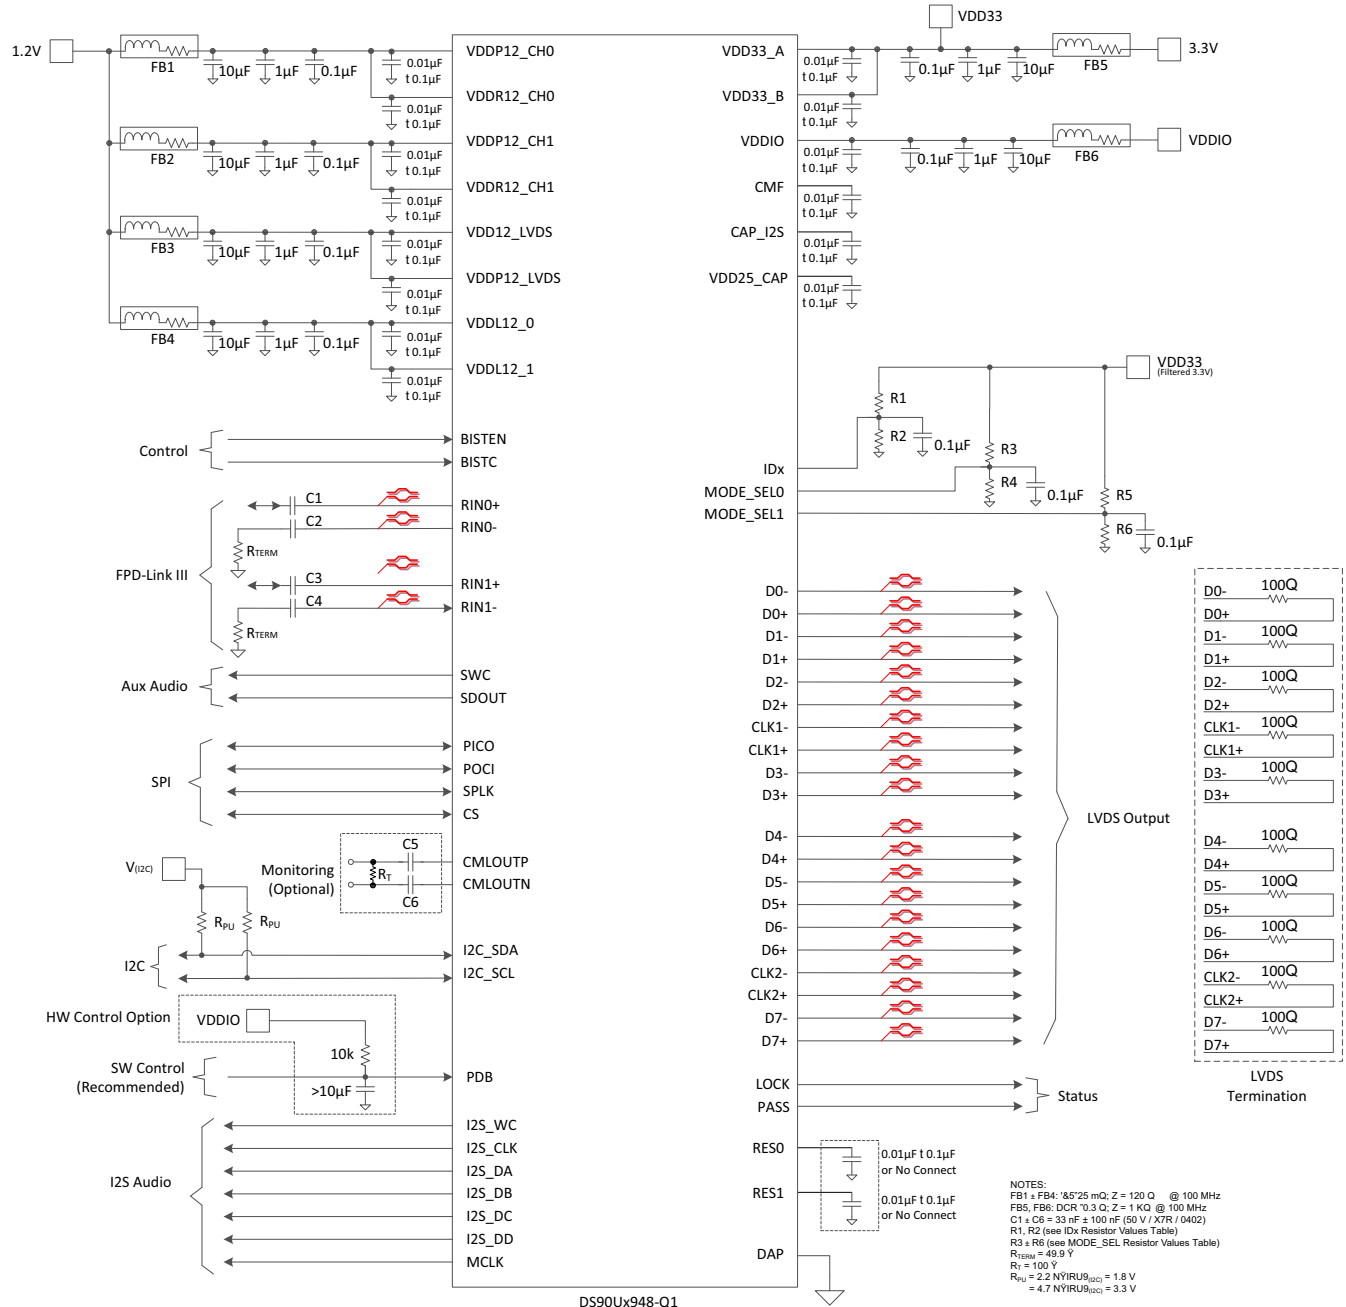
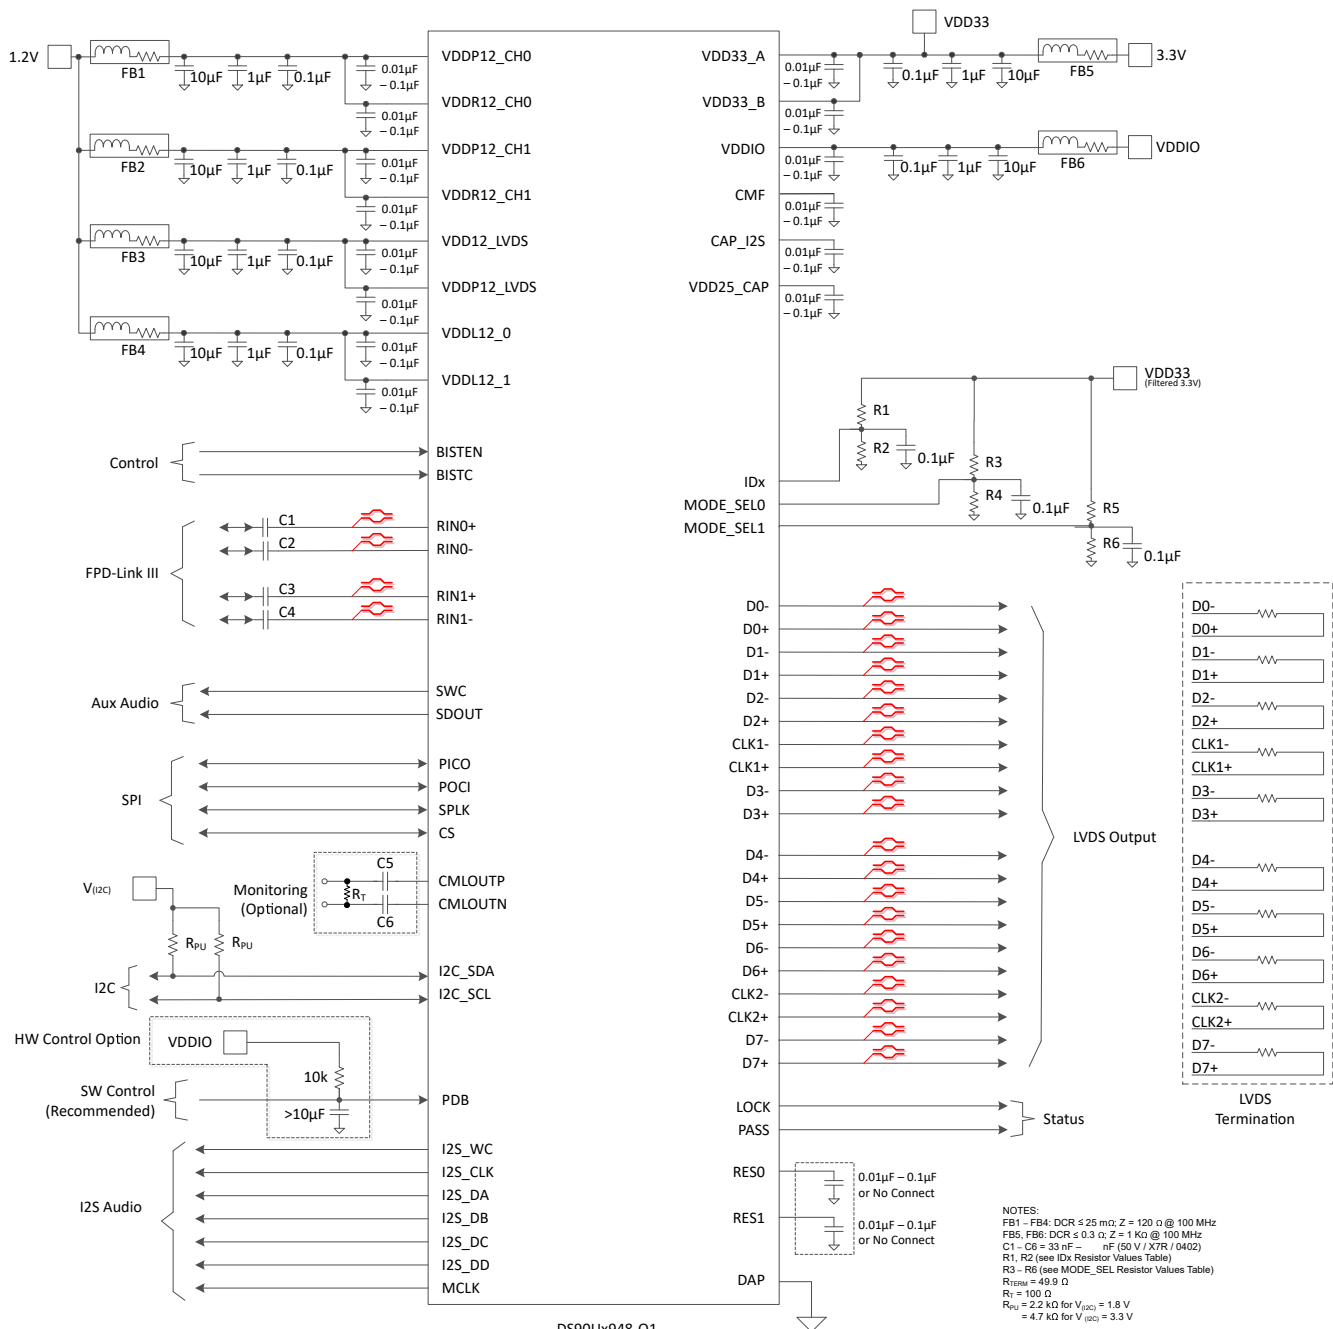

Figure 8-1. Typical Connection Diagram (Coax)
Figure 8-2. Typical Connection Diagram (STP)
Bypass capacitors must be placed near the power supply pins. At a minimum, use four (4) 10-μF capacitors for local device bypassing. Ferrite beads are placed on the two sets of supply pins (VDD33 and VDDIO) for effective noise suppression. The interface to the graphics source is LVDS. The VDDIO pins may be connected to 3.3 V or 1.8 V. A capacitor and resistor are placed on the PDB pin to delay the enabling of the device until power is stable. See Figure 8-1 for a typical STP connection diagram and Figure 8-2 for a typical coax connection diagram.